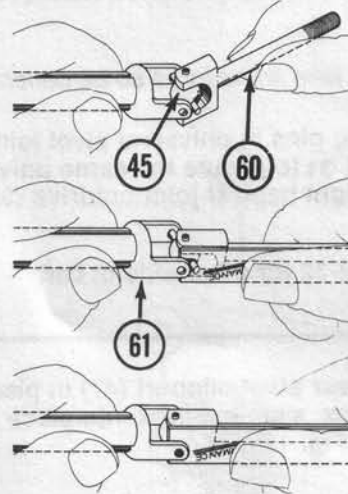

FIG. 20
1 Place universal pivot joint (45) in rear axle (60) so that cross pin holes are aligned vertically with holes in rear axle (60) U-joint yoke. Fig. 20.
2. Using pliers, push a 3/32" x 1/2" spirol pin (44) through rear axle (60) U-joint yoke and through universal pivot joint (45) until pin (44) extends evenly out of both sides of rear axle (60) U-joint yoke. Fig. 20.
3. Pry universal pivot joint (45) in rear axle (60) into the male drive shaft (61) U-joint using TEAM LOSI wrench and set aside until step 6. Fig. 20.